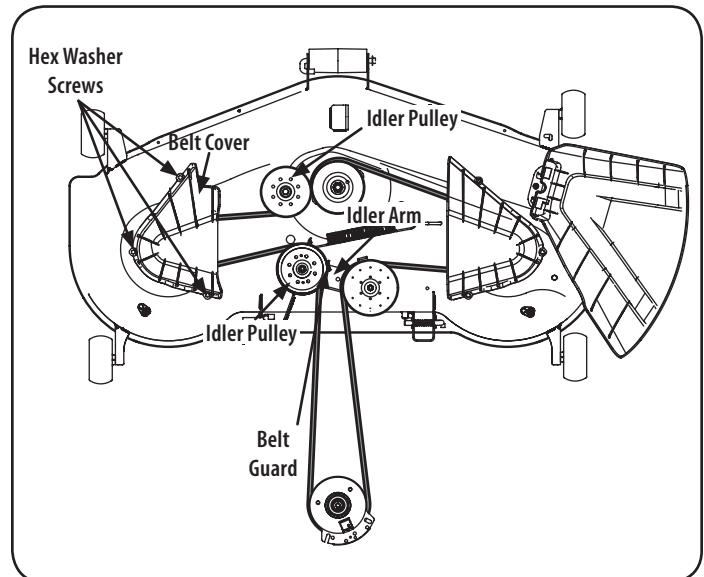

Figure 36
2. Remove the hex washer screws securing the belt covers to the deck. See Figure 36.
5. Install the new belt around the spindle pulleys as shown and reinstall the belt covers. See Figure 36.
7. Route the belt as shown in Figure 36 and then reinstall the deck (refer to Deck Installation).